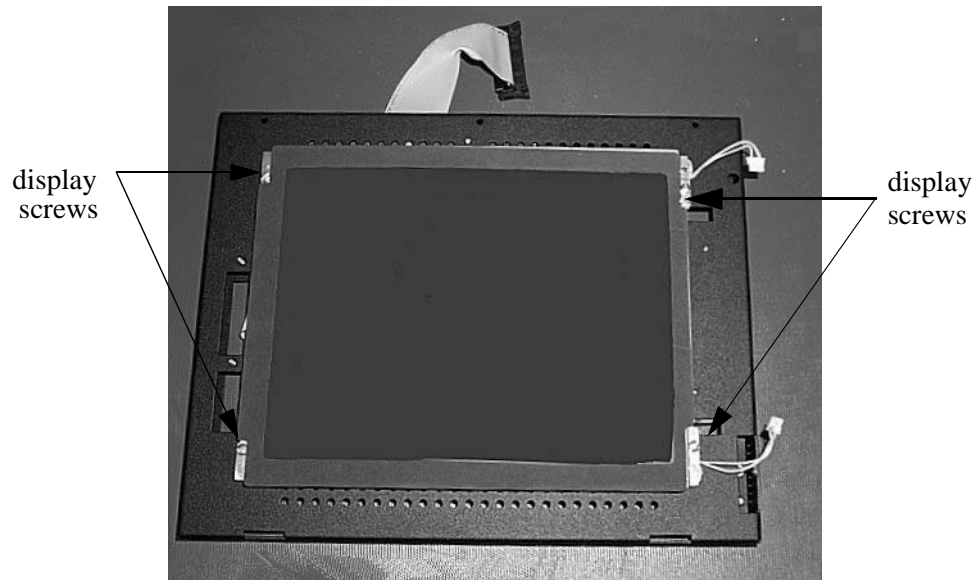
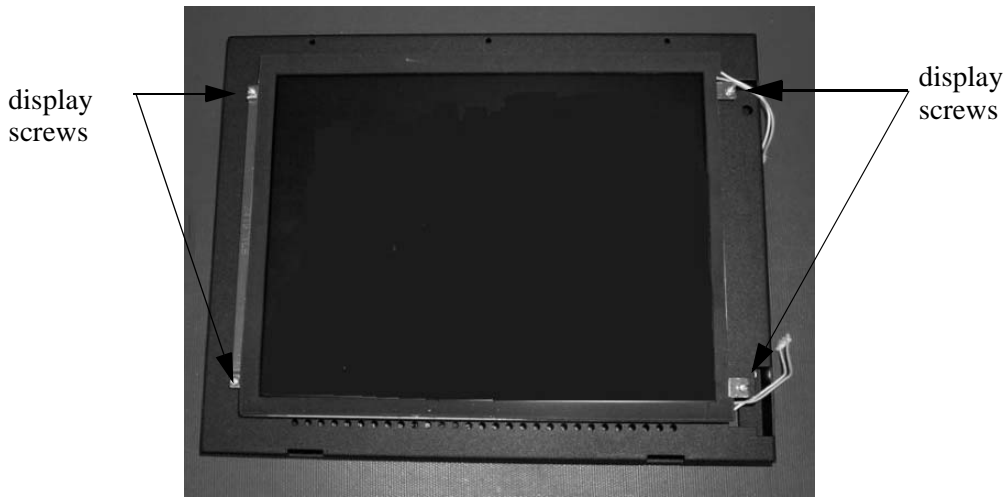

Figure 5: Philips Display (12" Unit) - Display Screw Location
Figure 6: Sharp Display (15'' Unit) - Display Screw Location
3. Remove the four screws from the display. Refer to figure 5 for a Philips (12" unit) display or figure 6 for a Sharp (15" unit) display.
5. Position the display on the display frame and secure in place using the four screws removed in step 3 of the *Accessing and Replacing the Bulbs* section. Refer to figure 5 for a Philips (12" unit) display or figure 6 for a Sharp (15" unit) display.